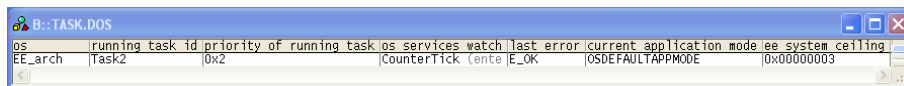

Figure 4.2: General information about the Erika Enterprise status.
- Figure 4.2 shows the general information about the kernel global variables, such as the name of the running task, the current priority of the running task, the last RTOS primitive called, the last error returned by an Erika Enterprise primitive, the current application mode and the current system ceiling.